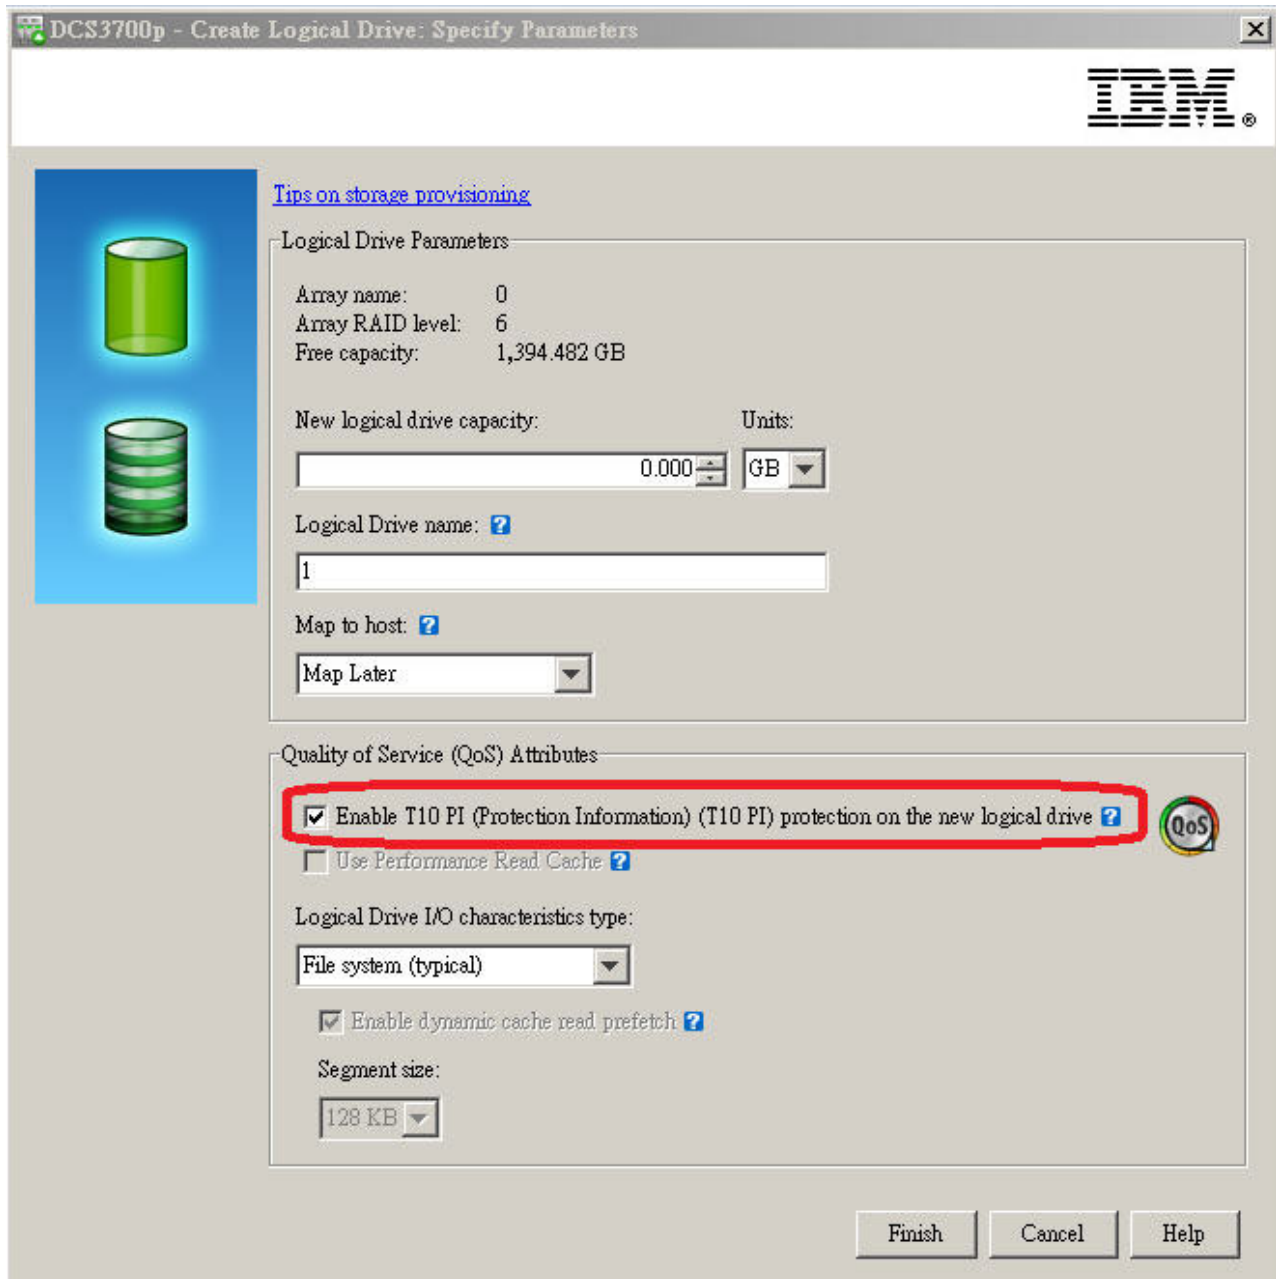

Figure 5. Enabling T10 PI on a logical drive
- In the Specify Capacity/Name (Create Logical Drive) dialog click **Enable T10 PI (Protection Information) (T10 PI) on the new logical drive** as shown in Figure 5 on page 63.